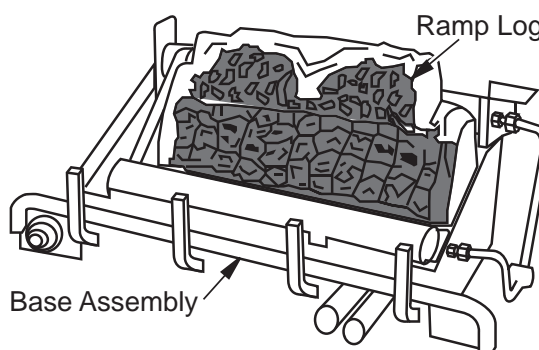

Figure 22 - Installing Log Set
- Place fiber ramp-log in center on chassis as shown in **Figure 22**. The fiber ramp-log can be identified by its shape and much lighter weight when compared to the other logs.